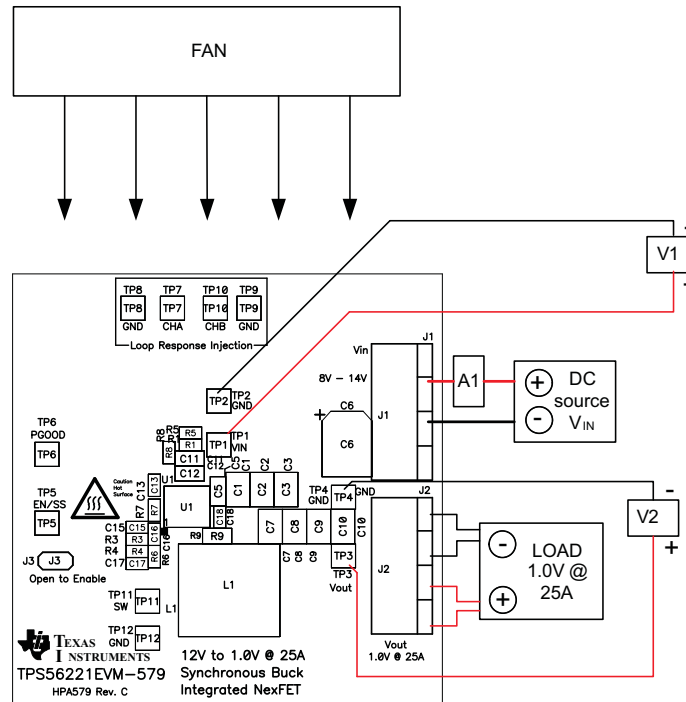

Figure 2. TPS56221EVM-579 Recommended Test Setup
Figure 2 is the recommended test setup to evaluate the TPS56221EVM-579.
2. Prior to connecting the DC input source, V_{IN}, it is advisable to limit the source current from V_{IN} to 4.0 A maximum. Make sure V_{IN} is initially set to 0 V and connected as shown in Figure 2.
3. Connect V_{IN} to J1 as shown in Figure 2.
4. Connect ammeter A1 between V_{IN} and J1 as shown in Figure 2.
5. Connect voltmeter V1 to TP1 and TP2 as shown in Figure 2.
6. Connect voltmeter V2 to TP3 and TP4 as shown in Figure 2.
7. Place the fan as shown in Figure 2 and turn it on, ensuring that the air blows directly across the evaluation module.
1. Set up the EVM as described in Section 5.3 and Figure 2.